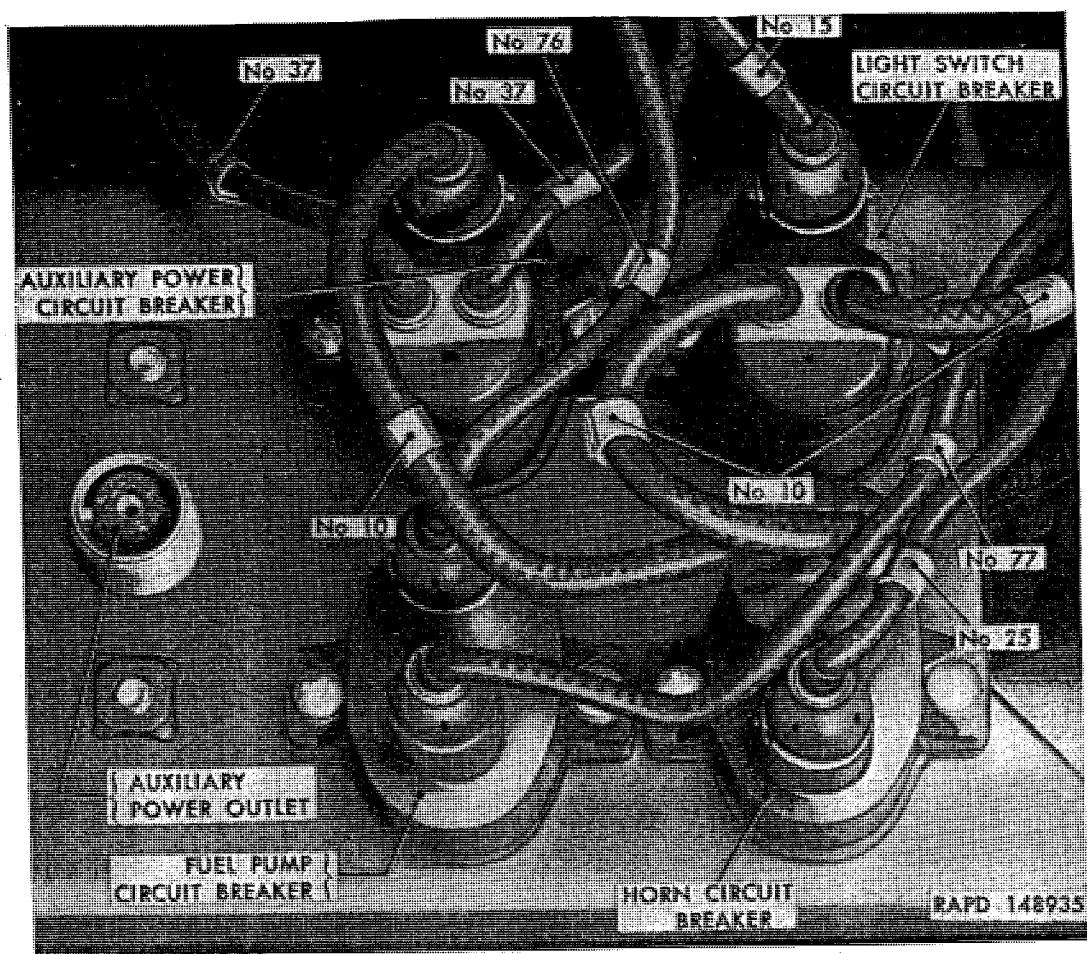
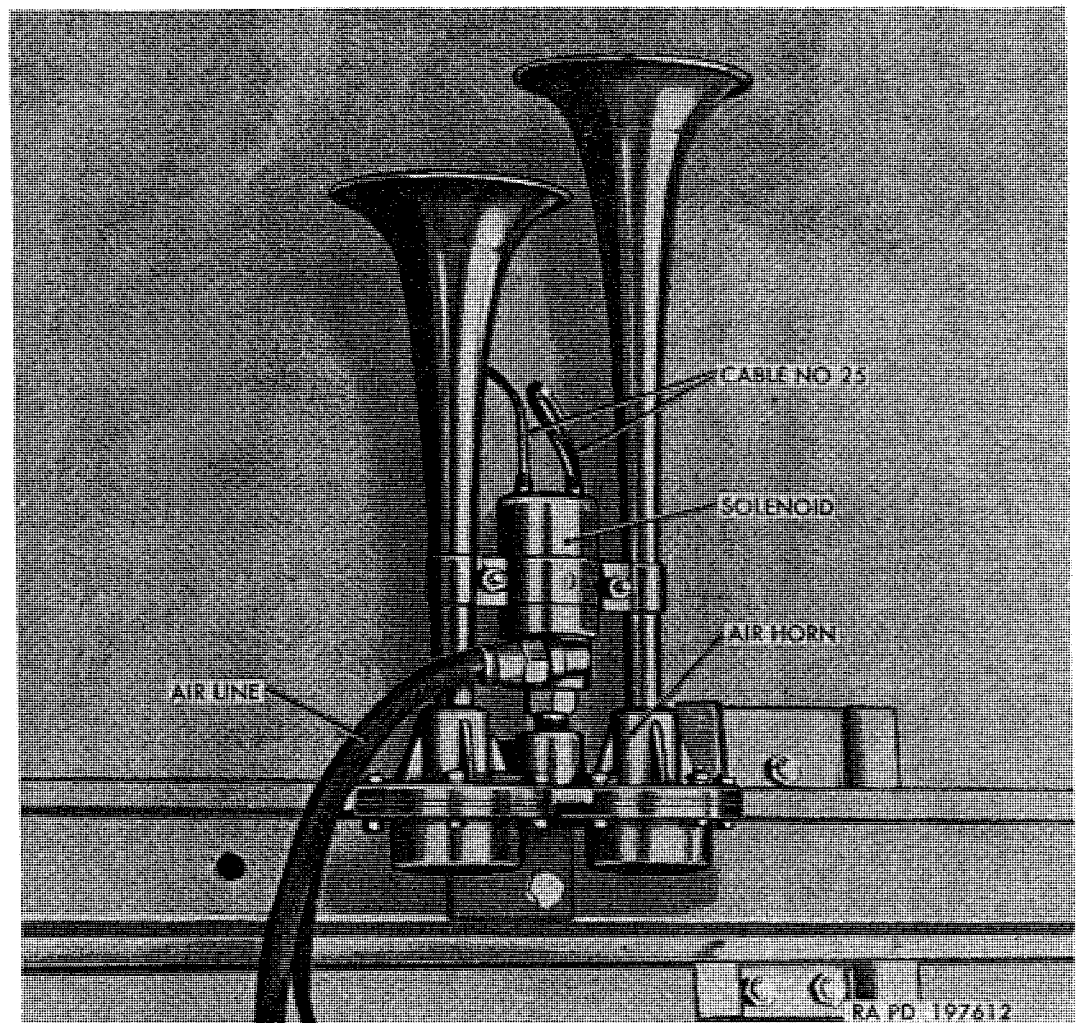
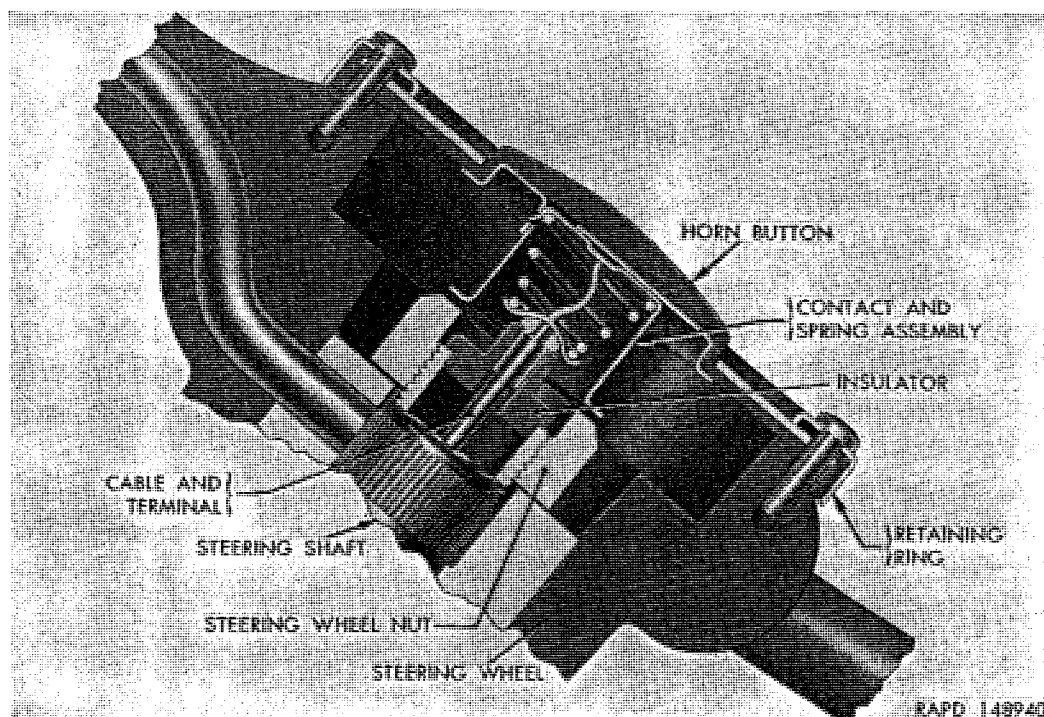

Figure 176. Circuit breakers and auxiliary power outlet installed (early M135).
Figure 178. Horn installed.
Figure 179. Horn button and contact installed in steering wheel.
(fig. 176 or 177)
a. General. Electrically controlled, air-operated horn (fig. 178) is mounted on under side of hood reinforcement above engine. Horn is accessible with hood in raised position (par. 303*b*). Flexible air line from junction fitting on cowl connects to air inlet at horn solenoid. When electrical circuit through solenoid is completed by horn button in center of steering wheel (fig. 179), solenoid admits air pressure into the vibrating-diaphragm-type horn, causing horn to sound. Wiring connections at horn are made through bayonet-type connectors; connectors are secured in clips attached to horn projector bracket. Horn circuit is protected by a 15-amp circuit breaker (fig. 176 or 177) mounted on steering gear cowl bracket.
b. Horn Removal (fig. 178).
- (1) Exhaust air pressure from air system. Disconnect flexible air line from horn solenoid.
- (2) Remove two cap screws and nuts attaching horn to horn bracket. Disengage cable connectors from clips on horn projector bracket and disconnect cables.
c. Horn Installation (fig. 178).
- (1) Connect wiring harness cables (No. 25) to horn solenoid cables; then engage connectors in clips on horn projector bracket.
- (2) Position horn at mounting bracket on hood reinforcement and attach with two $\frac{1}{4}$ -28 x $1\frac{1}{8}$ cap screws and $\frac{1}{4}$ -28 nuts, securing wiring harness clip under one of the nuts. Tighten nuts and engage wiring harness in clip.
- (3) Connect flexible air line to horn solenoid inlet, tightening the connection firmly.
d. Horn Button Removal (fig. 179). Remove four cross-recess screws attaching horn button retaining ring to steering wheel. Remove retaining ring, horn button, and contact and spring assembly.
e. Horn Button Installation (fig. 179). Make sure end of contact and terminal in center of steering wheel nut are clean. Position contact and spring assembly on steering wheel nut, install horn button and retaining ring, and attach retaining ring to steering wheel with four No. 8 x $\frac{7}{8}$ cross-recess tapping screws.